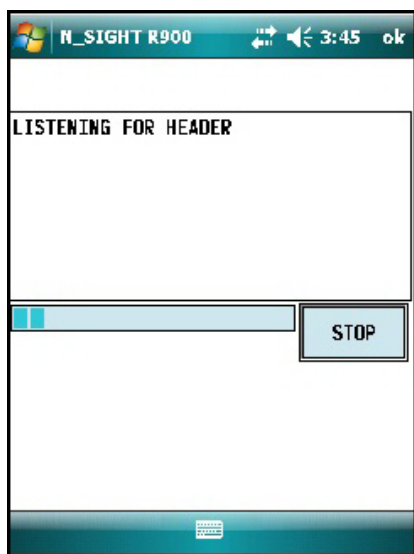

Figure 56 Listening for Data
- 2 The R900 BCT activates the R900 and listens for the data logger to start transmitting. See Figure 56.